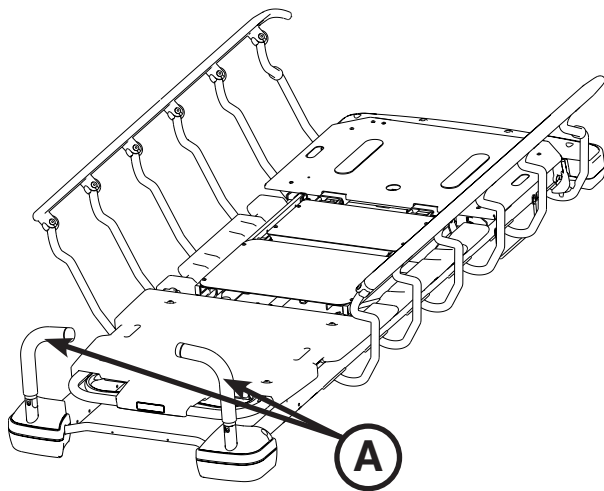

Figure 18: Push Handles Open
To use the push handles, pivot the handles (A) up and push down until they are locked into position (Figure 18).